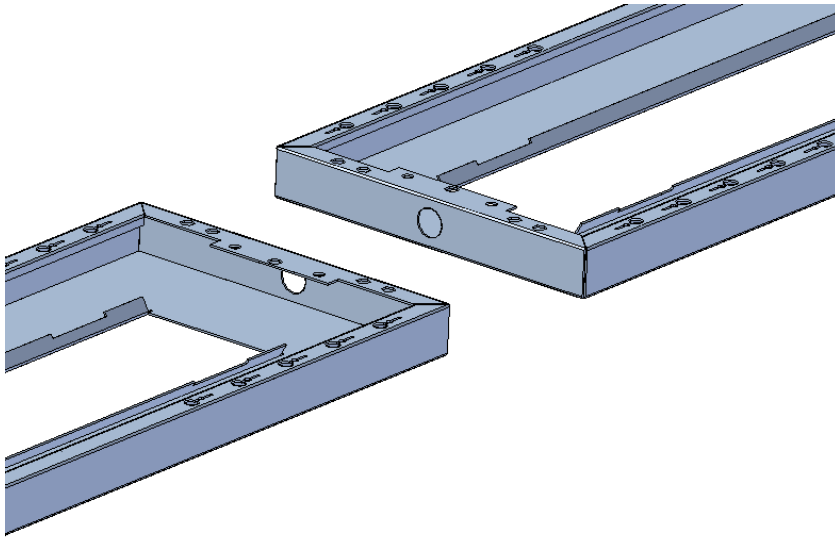

Fig. 13
1. Make a 15 mm diameter through hole on the case to allow the passage of the wiring cables from one TOUCH to the other (Figure 13).